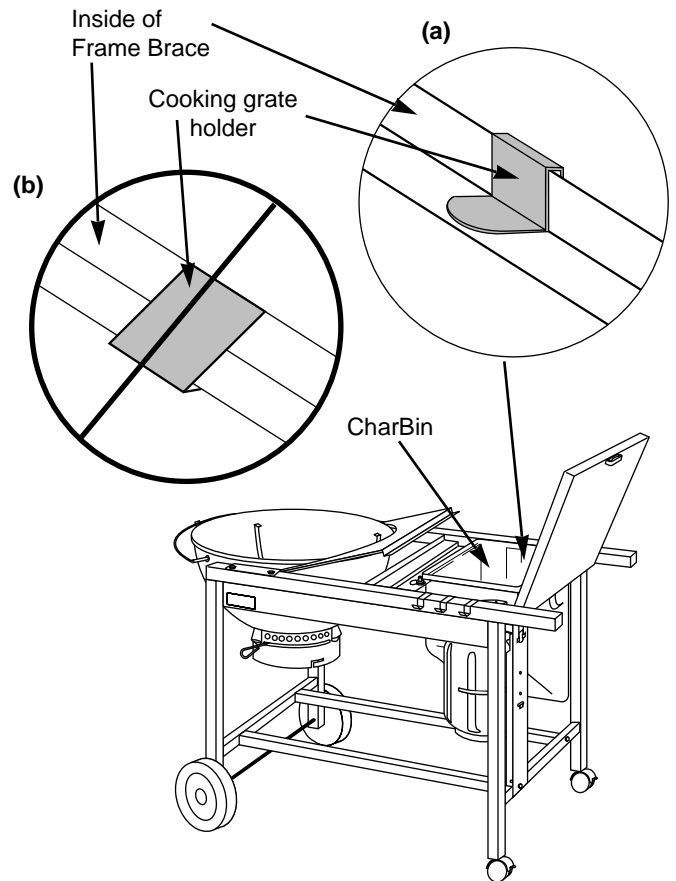

Figure 14
*Note: Before sliding the CharBin into place check that the Cooking grate holder is sitting loosely on the frame brace and is conforming to the frame brace. Figure 14 a. If it is tight or stuck over the edge of the frame brace, Figure 14 b, reposition as in Figure 14 a.*
Slide CharBin down into the top frame with the deep end toward the rear. Figure 14.